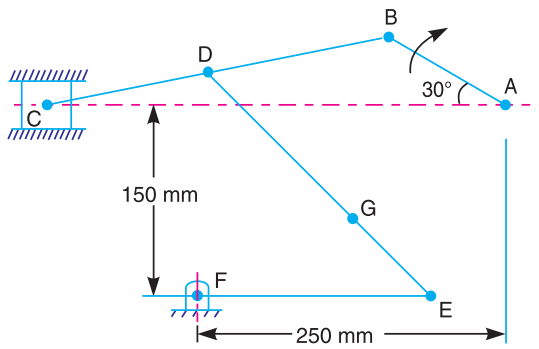

Fig. 8.39
4. In a mechanism as shown in Fig. 8.39, the link AB rotates with a uniform angular velocity of 30 rad/s . The lengths of various links are :